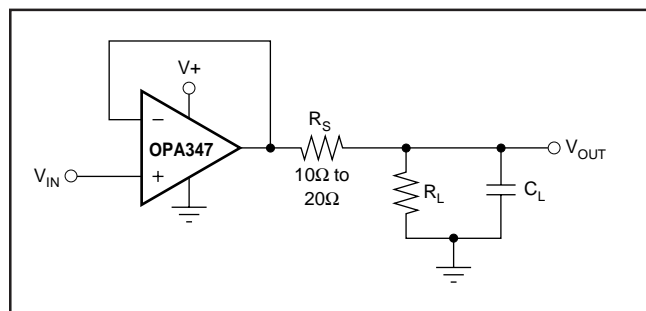

FIGURE 6. Series Resistor in Unity-Gain Buffer Configuration Improves Capacitive Load Drive.
The OPA347 in a unity-gain configuration can directly drive up to  $250\text{pF}$  pure capacitive load. Increasing the gain enhances the amplifier's ability to drive greater capacitive loads (see the characteristic curve Small-Signal Overshoot vs Capacitive Load). In unity-gain configurations, capacitive load drive can be improved by inserting a small ( $10\Omega$  to  $20\Omega$ ) resistor,  $R_S$ , in series with the output, as shown in Figure 6. This significantly reduces ringing while maintaining Direct Current (DC) performance for purely capacitive loads. However, if there is a resistive load in parallel with the capacitive load, a voltage divider is created, introducing a DC error at the output and slightly reducing the output swing. The error introduced is proportional to the ratio  $R_S/R_L$ , and is generally negligible.